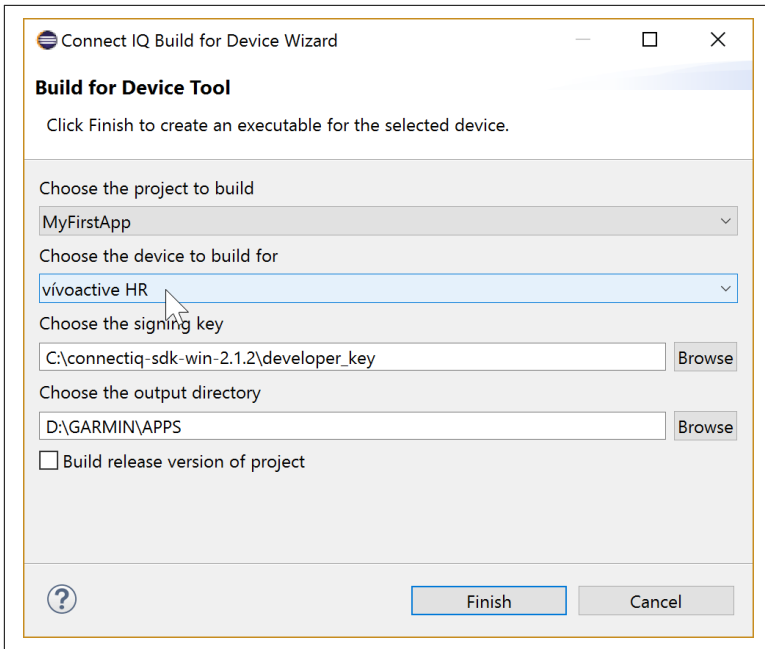

Figure 3-3. Building for a real device
3. The wizard should look like Figure 3-3. Click Finish. The wizard won’t close by itself, so you’ll need to close it.